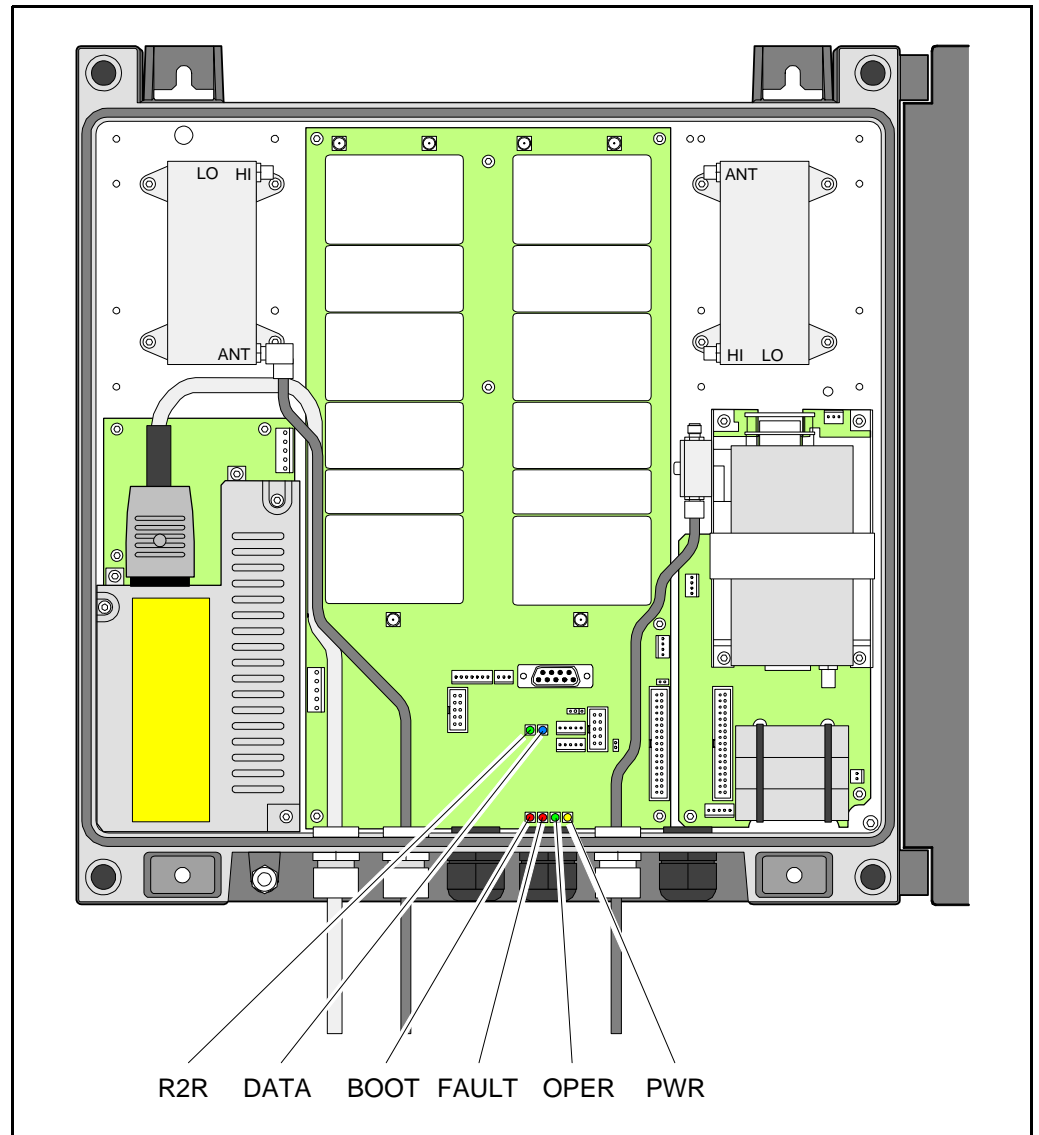

Figure 4-1. Indicators in the cabinet
2. Check the four LEDs downmost in the repeater (see Figure 4-1). A correct power-up is indicated as follows:
Figure 4-1 shows the repeater indicators . There are also two external indicators on the repeater front cover.